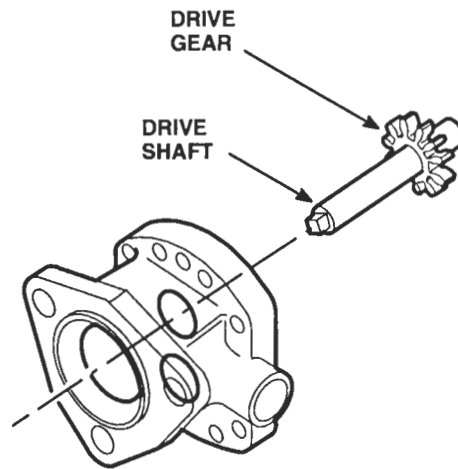

Figure 10. Installing Drive Shaft Gear Assembly
4. Lubricate the pump shaft and insert the square end of the shaft into the opening at the gear side of the pump body and through the oil seals (Figure 10.)